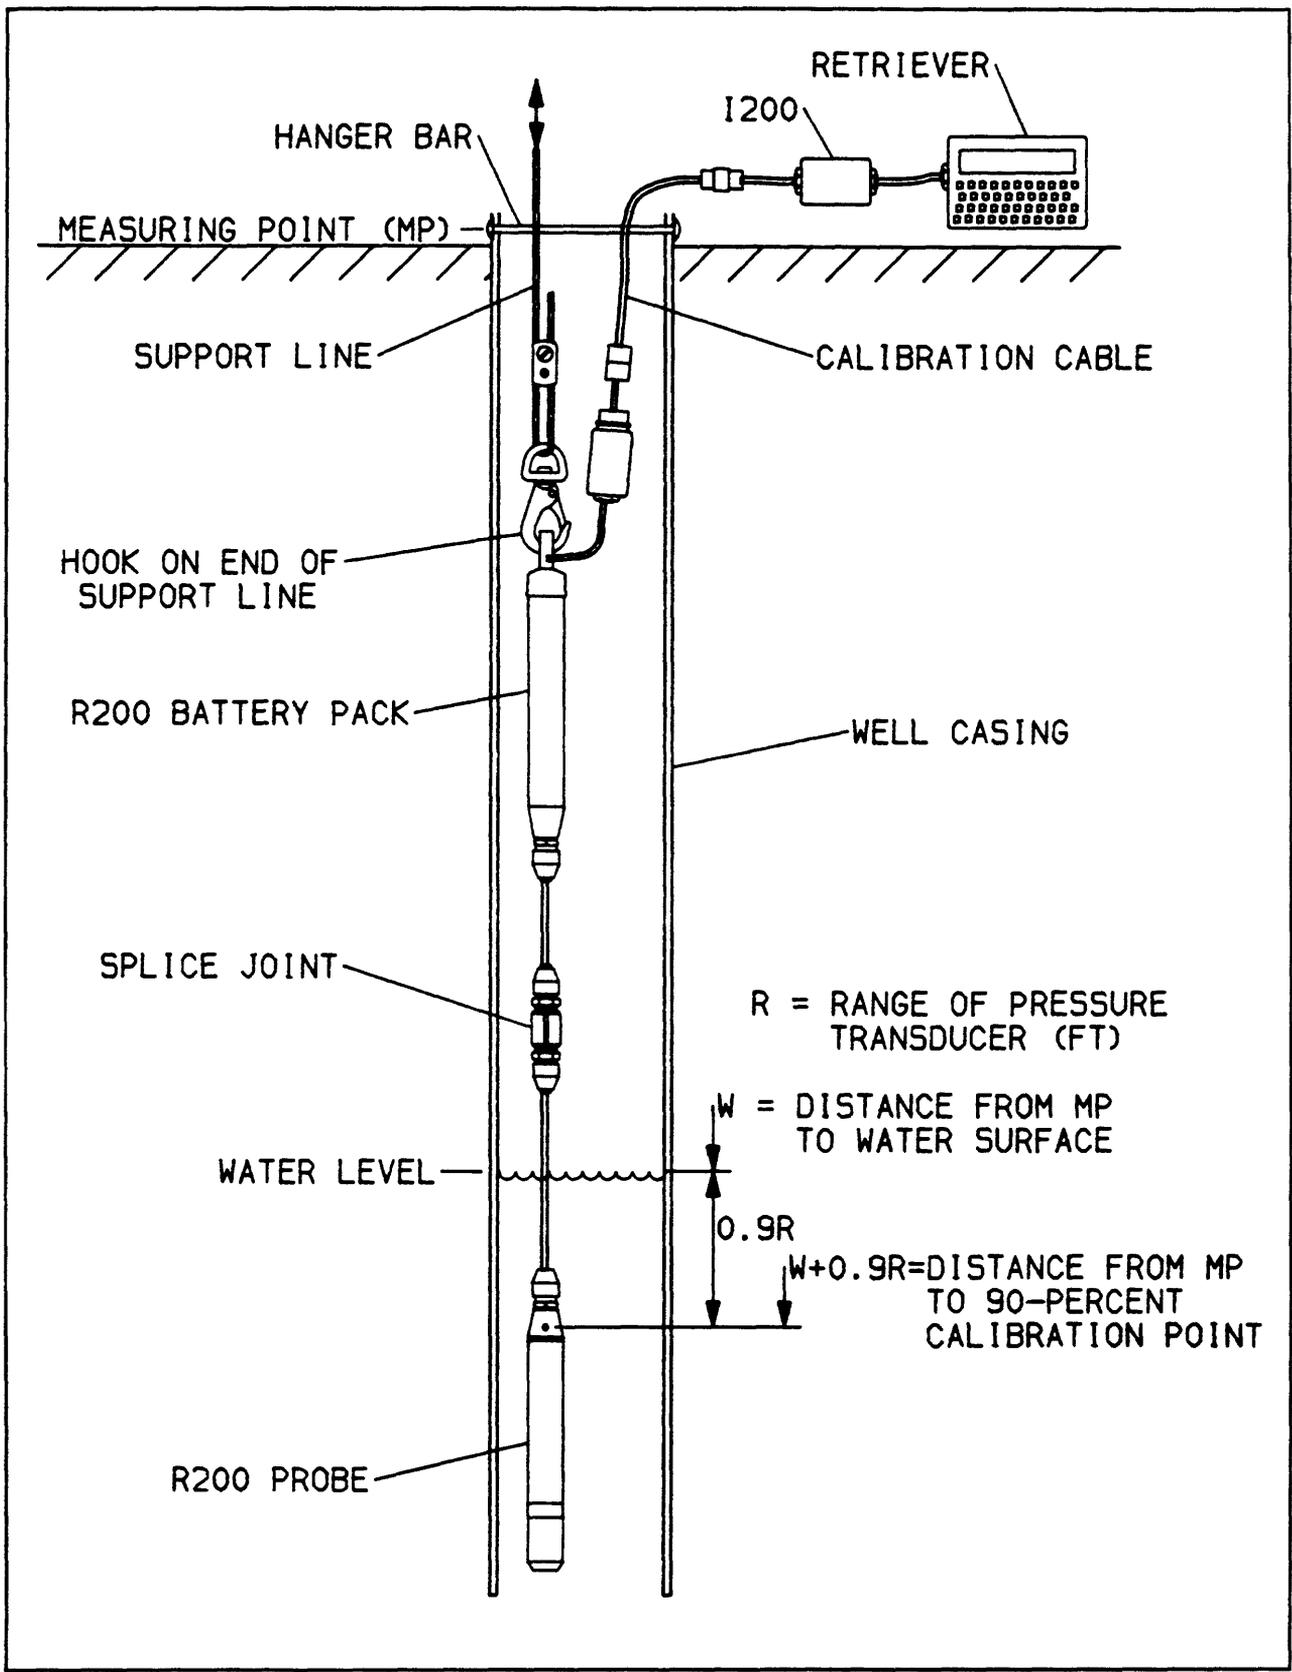

Figure 10.--Achievement of 90-percent calibration-point depth using calibration cable and support line.
**NOTE:** If the combined length of the probe cable and the battery-pack cable is too short to allow the probe to be lowered to the 50-percent calibration point, then a calibration cable will be needed along with some method of lowering the entire R200 (probe and battery pack) into the well. Figure 10 depicts this situation for the 90-percent calibration point. This figure suggests using a support line in an "inverted" manner to lower the R200. A calibration cable is used to extend the I/O connector to the top of the well to allow retriever communications.
**NOTE:** If the combined length of the probe cable and the battery-pack cable is too short to allow the probe to be lowered to the 90-percent calibration point, a calibration cable will be needed along with some method of lowering the entire R200 (probe and battery pack) into the well. Figure 10 depicts this situation for the 90-percent calibration point. This figure suggests using a support line in an "inverted" manner to lower the R200. The calibration cable is used to extend the I/O connector to the top of the well to allow retriever communications. **CAUTION: When using the calibration cable, some form of support line must be used to suspend the R200 as the calibration cable cannot support the weight of an R200. At its unused end, this support line should be fastened to something sturdy to prevent loss of the entire R200 unit if the support line is released.**